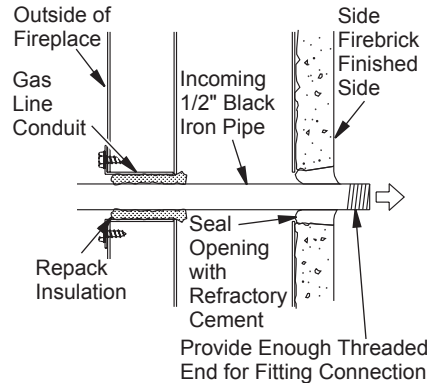

Figure 19 - Gas Line Installation
3. Run a 1/2" black iron gas line into the fireplace through the rear at gas line conduit sleeve (if using a raised platform, add height). Provide sufficient gas line into fireplace chamber for fitting connection (see Figure 19, page 13).